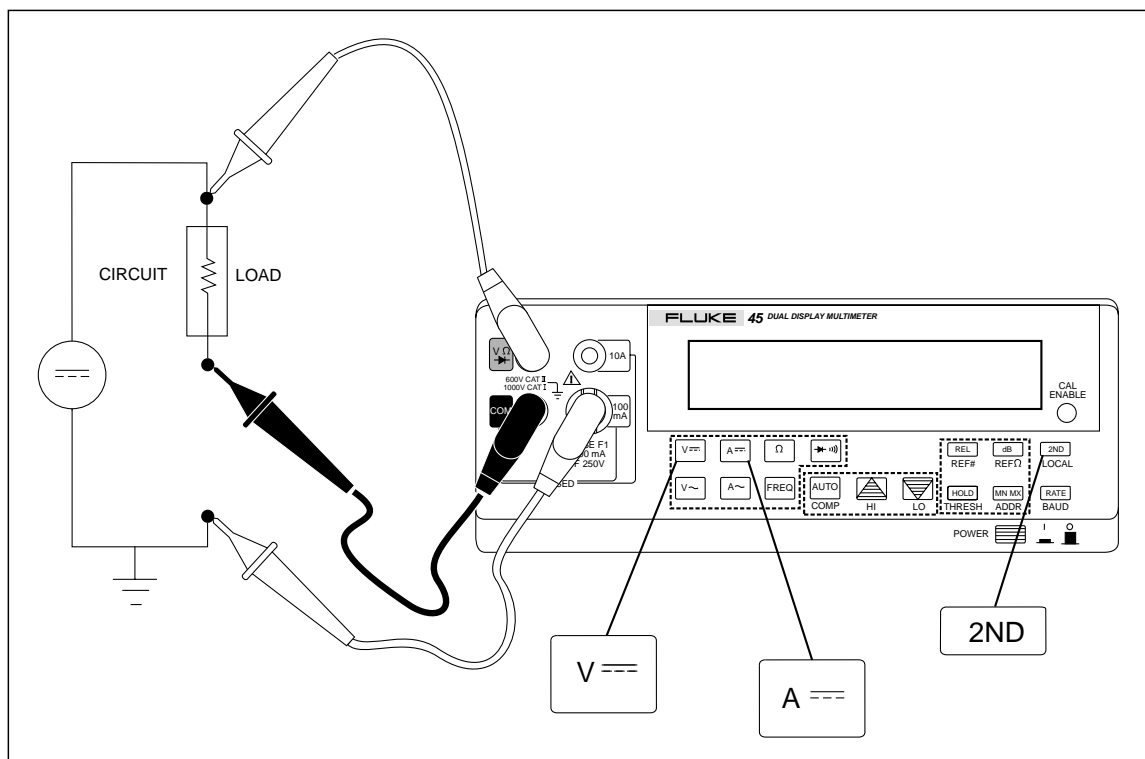

Figure 4-2 DC Voltage and DC Current Measurement on Input Signal
However, to measure the voltage and current of an input signal requires three leads. Be sure that the voltage and current measurements share the same common as shown in Figure 4-2. Then simply follow the precautions you would follow if you were making normal current measurements without a current clamp.
4. Connect the leads to the test circuit as shown in Figure 4-2 and read the measurements on the displays. Although current will be displayed as negative, it is in fact positive when interpreted according current flow convention.